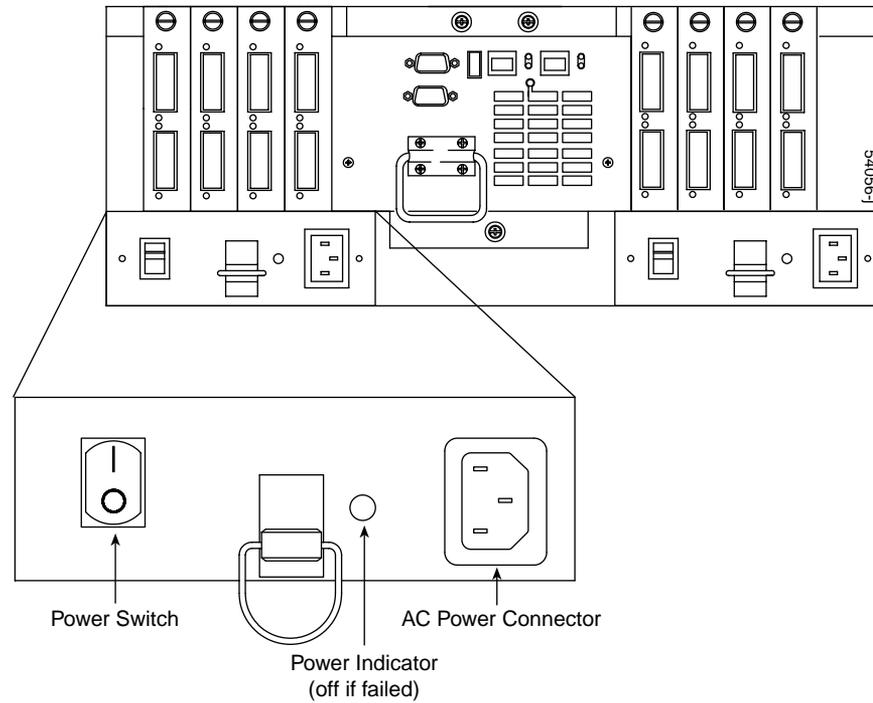

Figure 4-11 Power Supply Switch, Connector, and Indicator
2. Check the Power indicator on the power supply at the rear of the controller enclosure (Figure 4-11). The green Power indicator on the failed power supply will be off.
3. Turn off the power switch and unplug the power cord from the failed power supply (Figure 4-11).
8. Plug in the power cord and turn on the power (Figure 4-11).